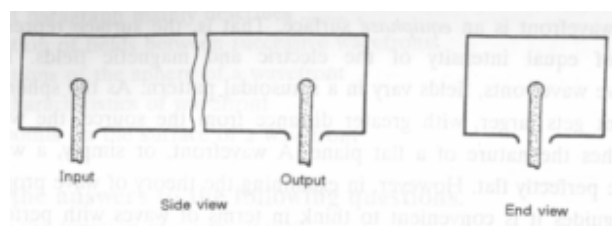

Figure 18-3. Input-Output Coupling for Waveguide Operation.
It is useful to think of a waveguide as a special environment for the propagation of electromagnetic (EM) waves. The ideas involved are not significantly different from those we examined in connection with the propagation of such waves from antennas. In fact, waveguides are energized or excited by a probe which acts very much like an antenna. Energy is removed from a waveguide by an antenna-like probe (see Figure 18-3).